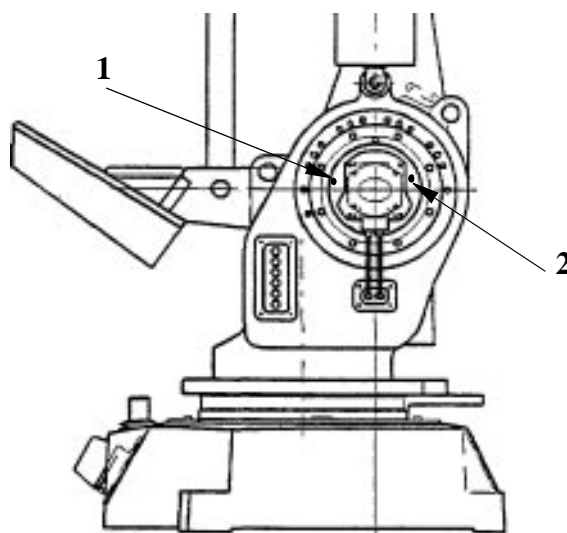

Figure 7 Drain holes, axes 2 and 3.
- Remove the filler (1) and drain (2) plugs. See Figure 7.
- Grease through the filling hole (1).
- Continue greasing until new grease exudes from the drain hole (2). See Volume below.